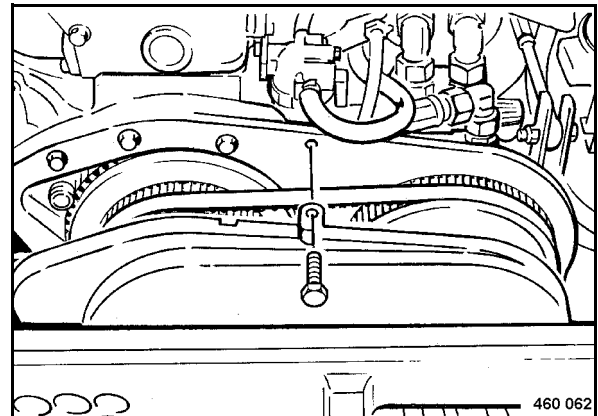

Fig. 130
- Disassemble the protection hood (Fig. 130).